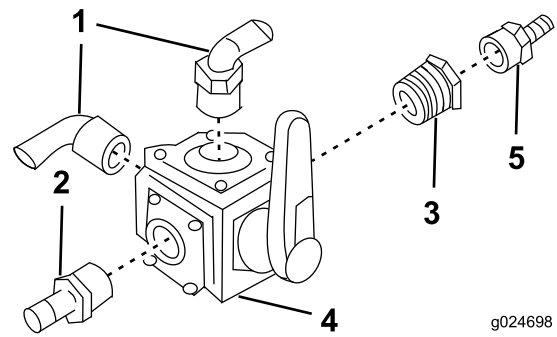

Figure 24
1. Assemble the 90°-barbed fittings, straight-barbed fitting (1 inch NPT x 3/4 inch), reducer fitting, and straight-barbed fitting (3/4 inch NPT x 1/2 inch) into the 4-way valve as shown in Figure 24.
Important: Align the 90° barbed fittings as shown in Figure 24.